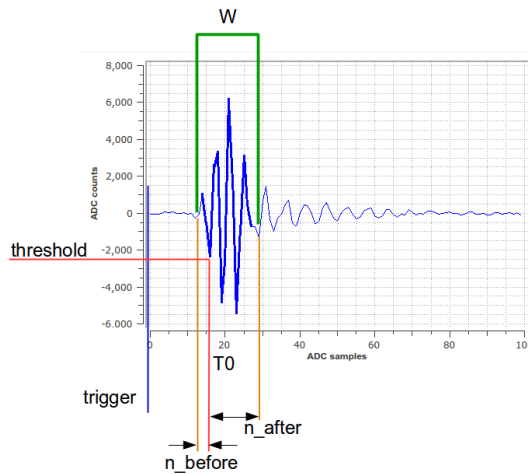

Figure 41: Single pass calculation parameters.
The window starts a (T0 - n_before) as shown in Figure 41. Threshold detection time (T0) is logged and provided in the data atom.
- Thr_idx value which marks the T0 (Figure 41)